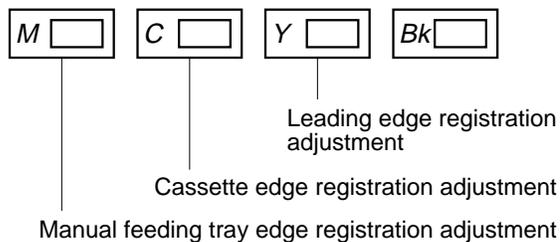

Figure 2-8 Color select LEDs for adjustment options
3. Press the COLOR SELECT key to select one of the adjustment options (see Figure 2-8 below).